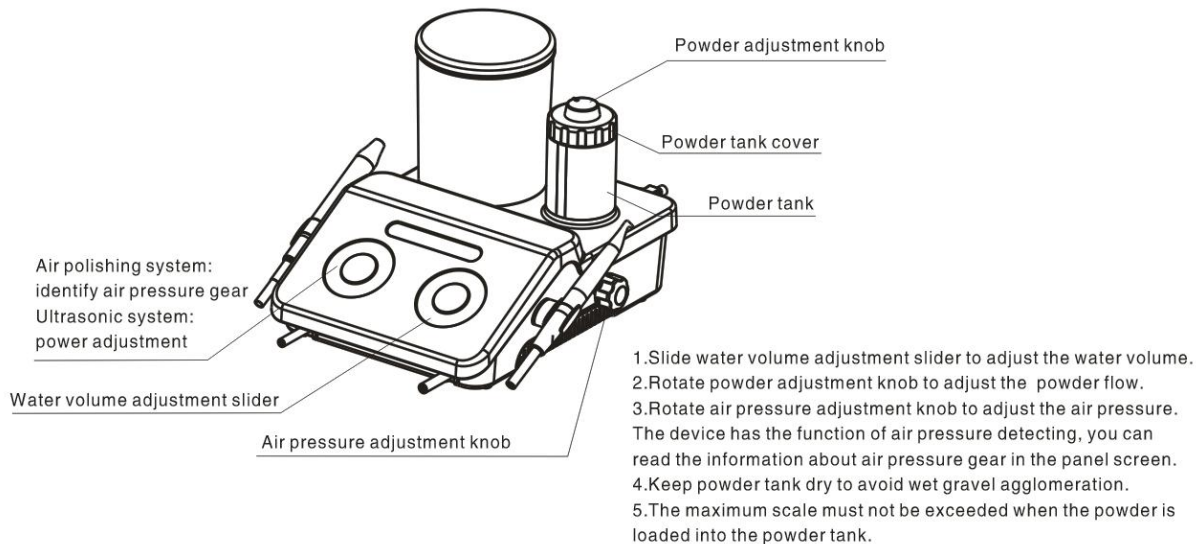
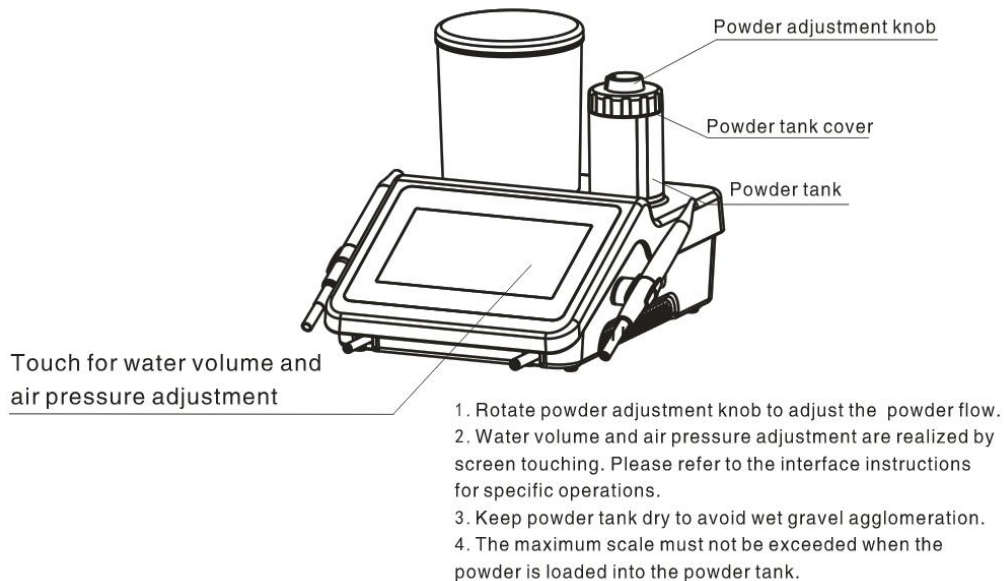

Figure 15 DQ-40
Figure 16 DQ-80
- 2、Insert the external air pipe (black) connector into the air intake connector on the back of the main unit: press the snap ring first and then insert the air inlet connector as shown in Figure 14. Insert the powder tank into the position of powder tank above the main unit (Figure 15, Figure 16).
- 3、Fill a proper amount of water into the transparent water bottle, and insert the water bottle into the sink seat above the main unit (Figure 15, Figure 16).
① Add an appropriate amount of powder into the powder tank (the amount of powder added should be controlled between "Max" and "0" marked on the surface of the powder tank), then tighten the cover of the powder tank, and insert the powder tank into the powder tank seat directly above the main unit.
② Pick up the air polishing handpiece, then the panel will automatically jump into air polishing mode.
③ If the device is DQ-40, adjust the air pressure knob by sliding the water volume adjustment slider (see Figure 15 for details). If the device is DQ-80, adjust the water volume by clicking the "+" or "-" button of water volume on the touch panel, adjust the air pressure by clicking the "+" or "-" button of power. Align the nozzle with the pool, step on the "1" button of foot switch, then confirm that the nozzle can normally spray gas, sand powder and water mist before use.
④ Please wear goggles and gauze on the face shield for the patient before sandblasting treatment. Users should wear goggles or protective masks.
⑤ Generally, the handpiece is held in the pen holding position.
⑥ Adjust the water volume and air pressure to the appropriate gear. The recommended water volume and air pressure starts from 5 gears. Adjust the water volume and air pressure at any time during the clinical process according to the sensitivity of patients' teeth and dental plaque. Increasing the air pressure will enhance the cleaning effect, but will weaken the polishing effect; Increasing the amount of water will enhance the polishing effect, but will weaken the cleaning effect.
⑦ The nozzle shall be aligned with the tooth surface during scaling, but avoid to contact directly. The distance between the nozzle and the tooth surface shall be 3-5 mm, and the angle shall be 30° - 60° . The smaller the angle, the larger the cleaning area. Please conduct a small range of circular movement on the tooth surface during scaling.
⑧ Use the high-speed evacuation device on the dental comprehensive treatment machine to absorb the air/ powder mixture reflected from the tooth surface during treatment.
⑨ Adjust the water volume to the maximum gear and polish all tooth surfaces after treatment.